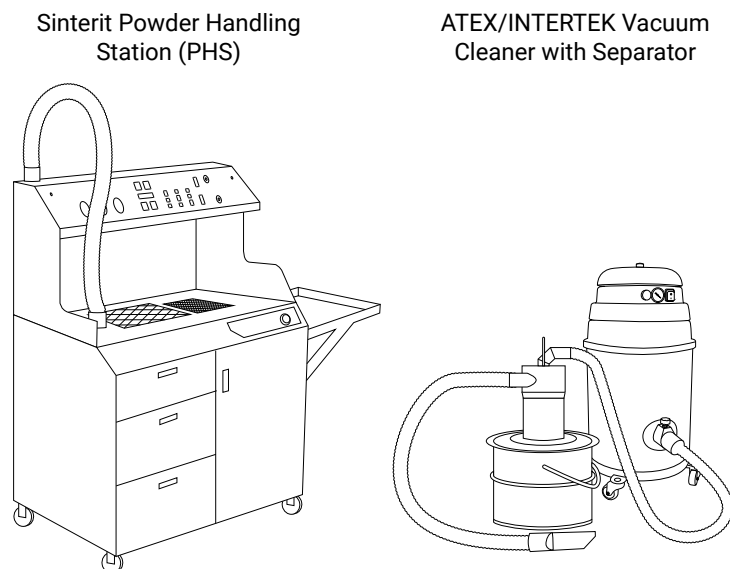

Fig. 9.2 Dedicated Sinterit solutions for cleaning the printer.
3. For cleaning the printer Sinterit recommends dedicated solutions: the PHS (Powder Handling Station) or ATEX/INTERTEK Vacuum Cleaner with Separator (fig. 9.2).